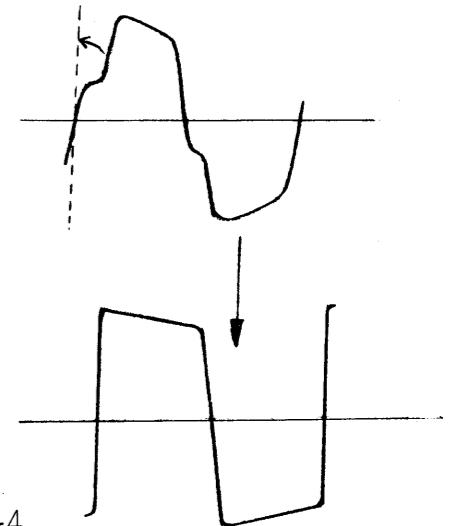

Fig. 2-4
- (1) waveform slop is straightened;
- (2) leading edge is as perpendicular to base line as possible or has shortest rise time. (Fig. 2-4.)